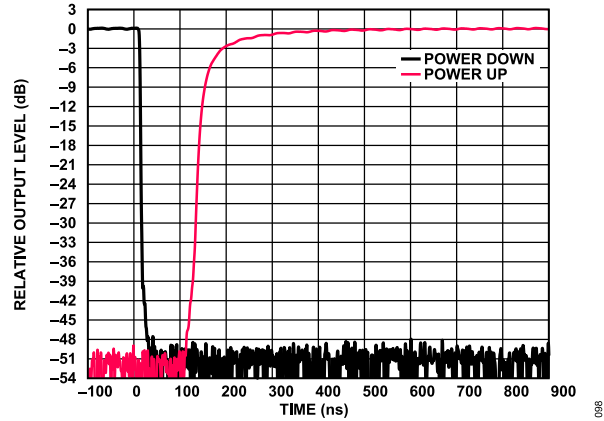

Figure 99. Relative Output Level vs. Time, Power-Up and Power-Down
The ADMV4530 includes a power-down (PD) pin that when enabled turns off the mixer and output driver section of the chip but keeps the PLL and VCO active. For applications where a fast power-up time is required, this standby mode is useful for muting the RF output signal while keeping the PLL locked. Figure 99 shows the typical response time of the PD pin.